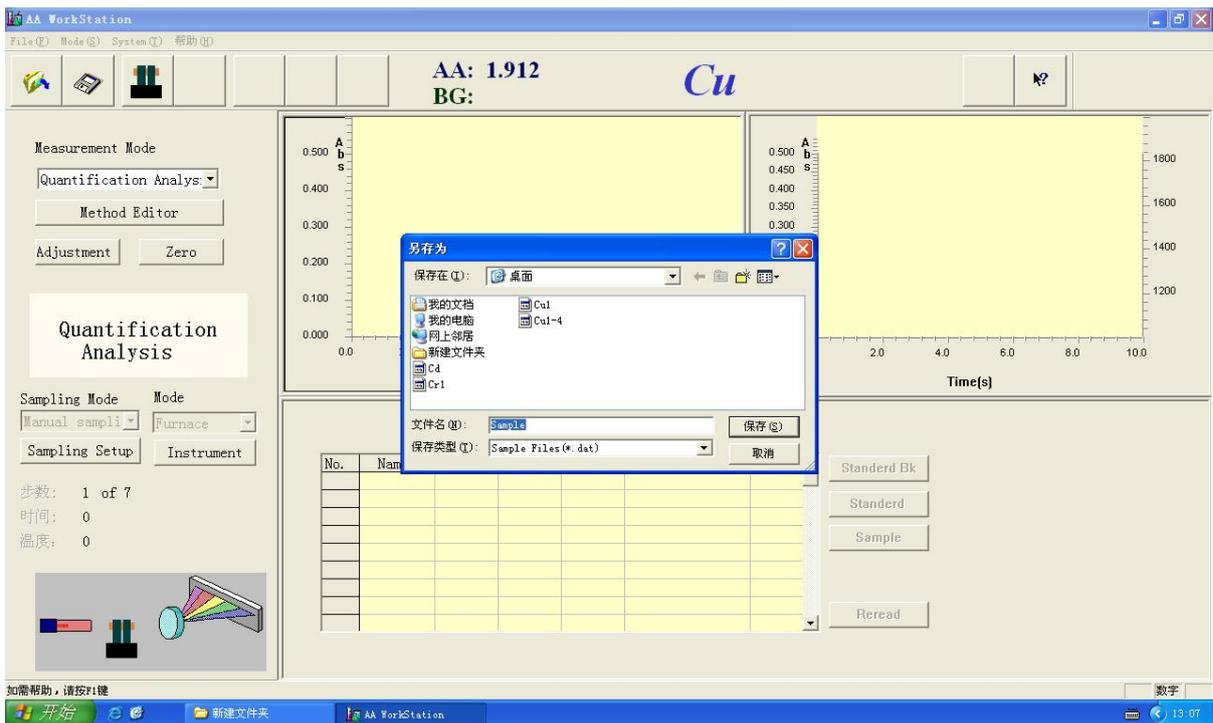

Figure 4-34
c. Press the “Save”, the “Save As” dialog box pops up, Figure 4-34. Input the file name and press the “Save” button.